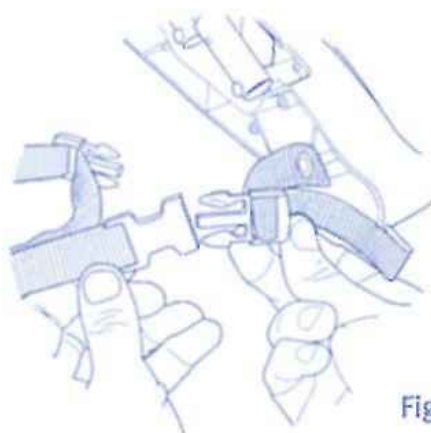

Fig. 3a
- Insert buckle, attach to side of frame with control panel into clip on side of frame without control panel so webbing extends across the frame of glider. See Fig. 3a.